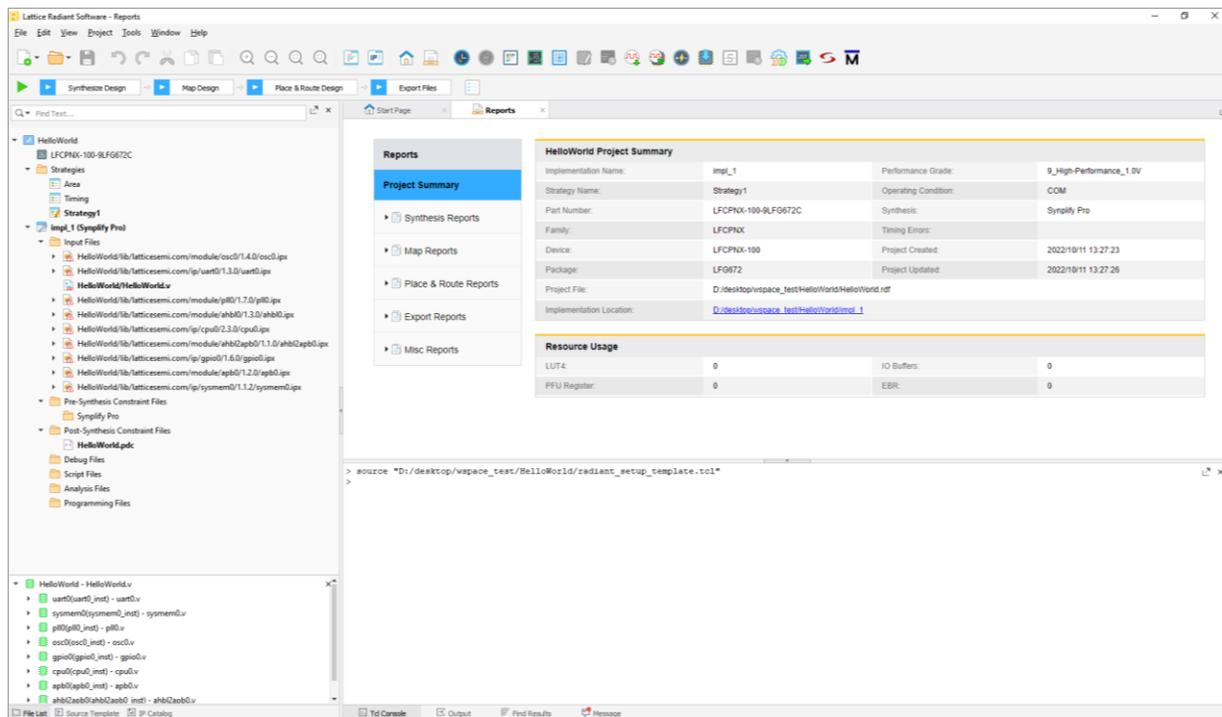

Figure 2.106. Radiant Project
2. Lattice Radiant is launched with a Radiant project generated for SoC at the background (Figure 2.106).